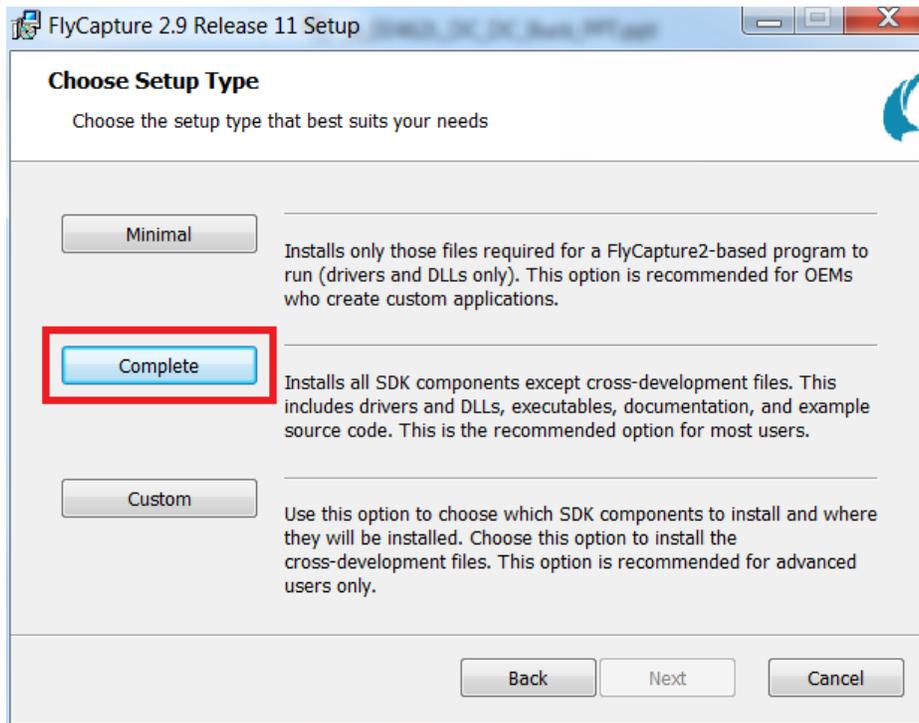

Figure 2-8. FlyCapture2 SDK Installation Options
- Click the button labeled "Complete" to install the entire FlyCapture2 SDK, shown in Figure 2-8.